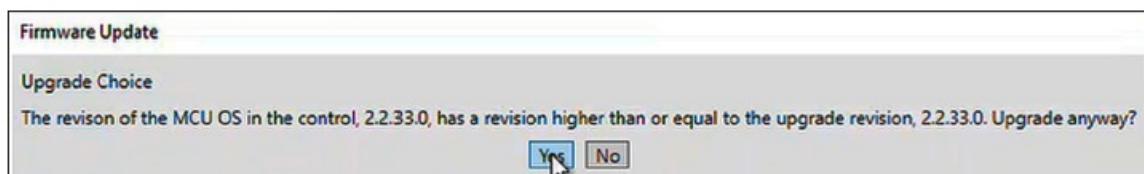

Figure 20. The MCU OS revision dialog box.
- **STEP 9.** The Firmware Update dialog box may ask about the MCU OS revision. Click on the Yes button if this dialog box appears. See Figure 20.